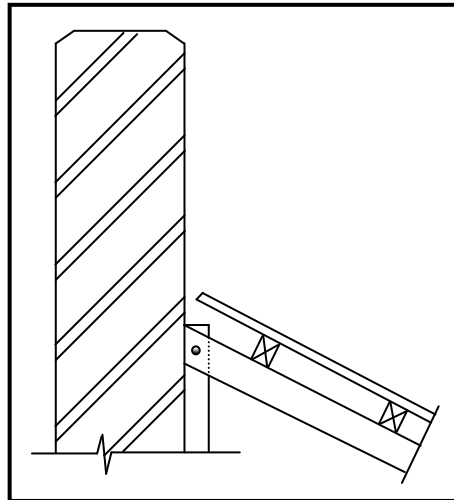

FIGURE 1.10
- 1.10 FIGURE 1.10 below shows a section through a brick parapet wall with a lean-to roof.
- 1.10.3 Explain the purpose of flashing if installed in FIGURE 1.10. (1)